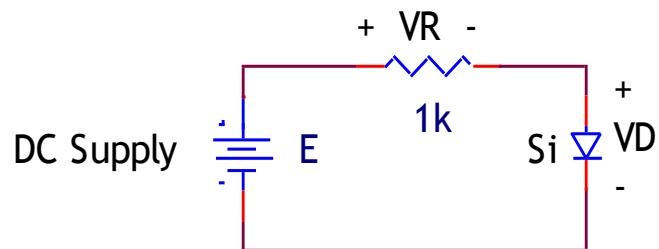

Fig. 3.1
1. Construct the circuit of *Fig. 3.1* with the supply (*E*) is set at 0 V. Record the measured value of the resistor.